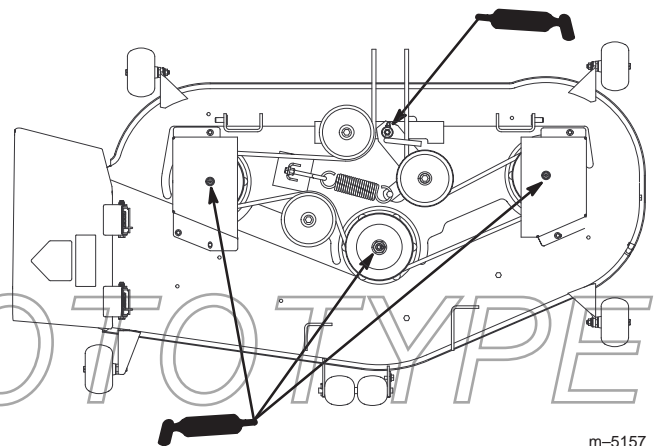

Figure 32
- Grease the fittings on the three spindle bearings (Fig. 32).
- Grease the idler pulley pivot (Fig. 32).